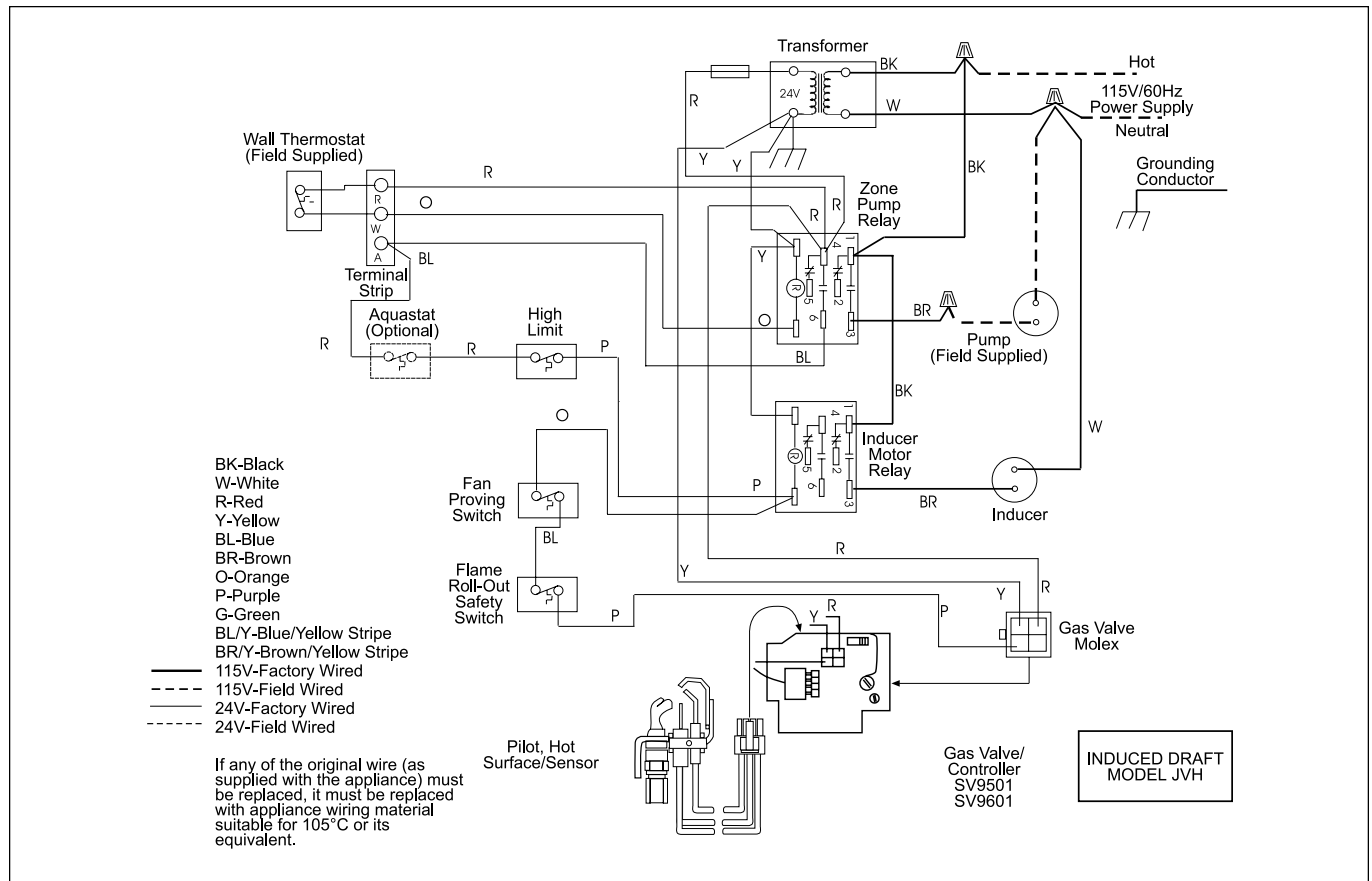

Figure 10. Wiring Diagram, JVi.
3. Follow the schematic in Figure 10. Remove the wire nut from the two black wires, and connect the hot lead from the 115V power supply, and the neutral lead to the white wires and the neutral side of the pump. The brown wire attaches to the hot side of the pump.